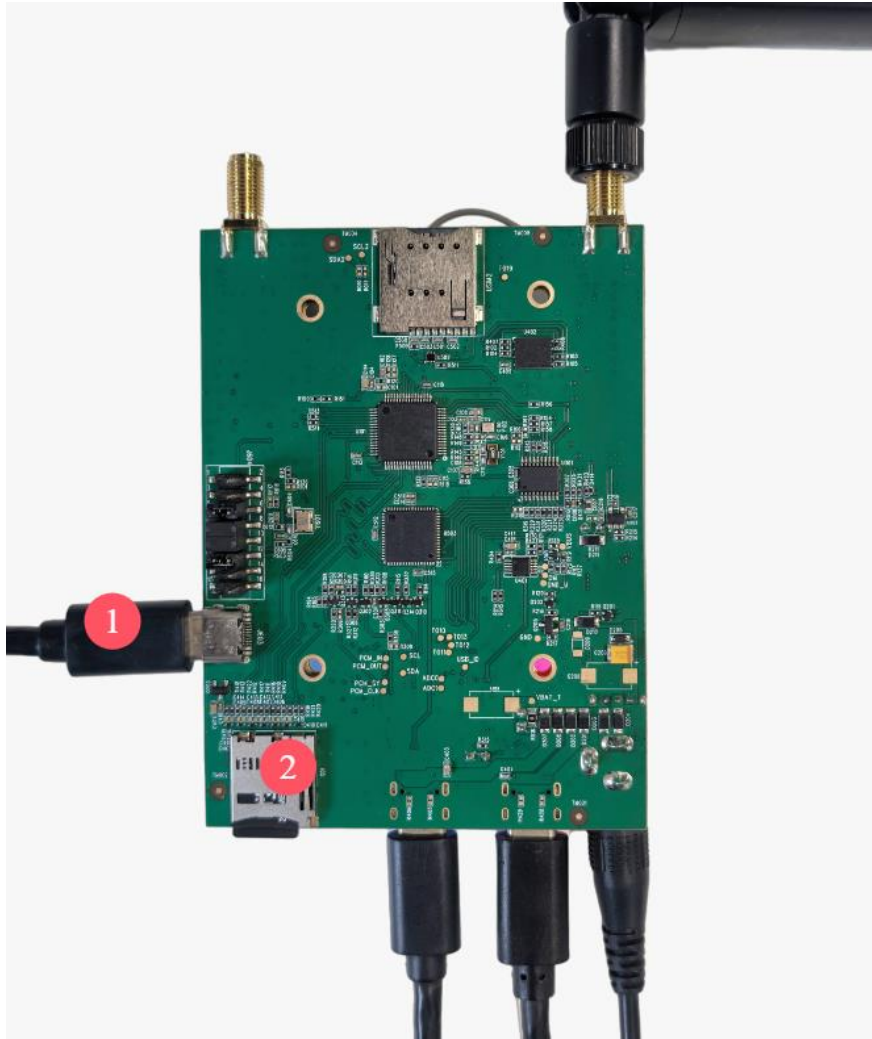

Figure 3: Bottom View of STM32 EVK
- ① Jumper, please connect refer to the **Figure 3**
- ② SD Card slot, please insert the SD card.